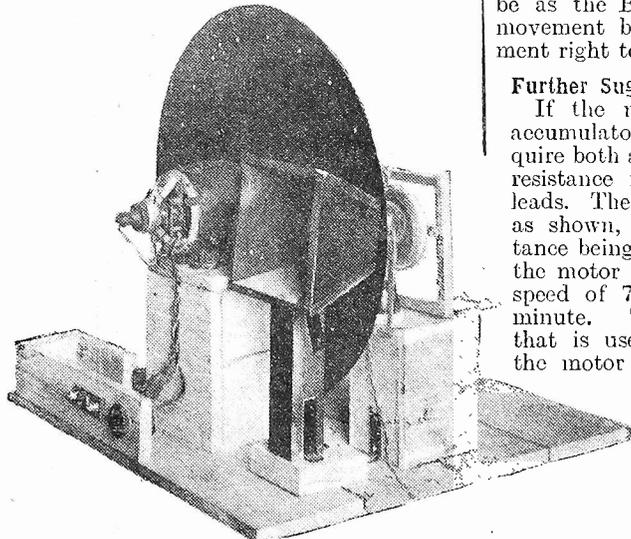

Fig. 3.—A good amateur effort of building disc television apparatus from rather crude materials.
Fig. 3 will make clear the methods used in connecting the wavemeter to the receiver.
- Drill and mount as in Fig. 5 in back of wavemeter, and back of detector end of receiver cabinet, wired to coupling coil, Fig. 3.
Fix slow-motion dial in place, and then wire up the tuning condenser, fixed condenser, and coil base and sockets, as shown in Fig. 3. Screw on bottom of cabinet and the wavemeter is complete.
By referring to Fig. 3 the reader will obtain a very fair impression of how a machine of